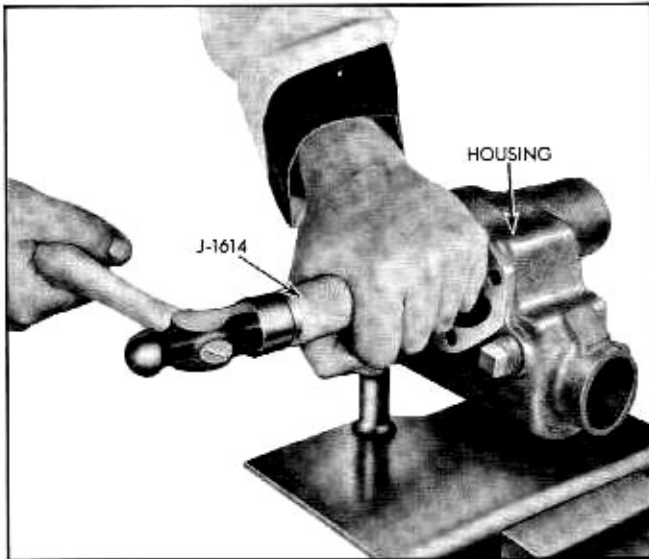

Fig. 9-21 Removing or Replacing Pitman Shaft Bushing
2. Drive out bushing with Tool J-1614 (Fig. 9-21).